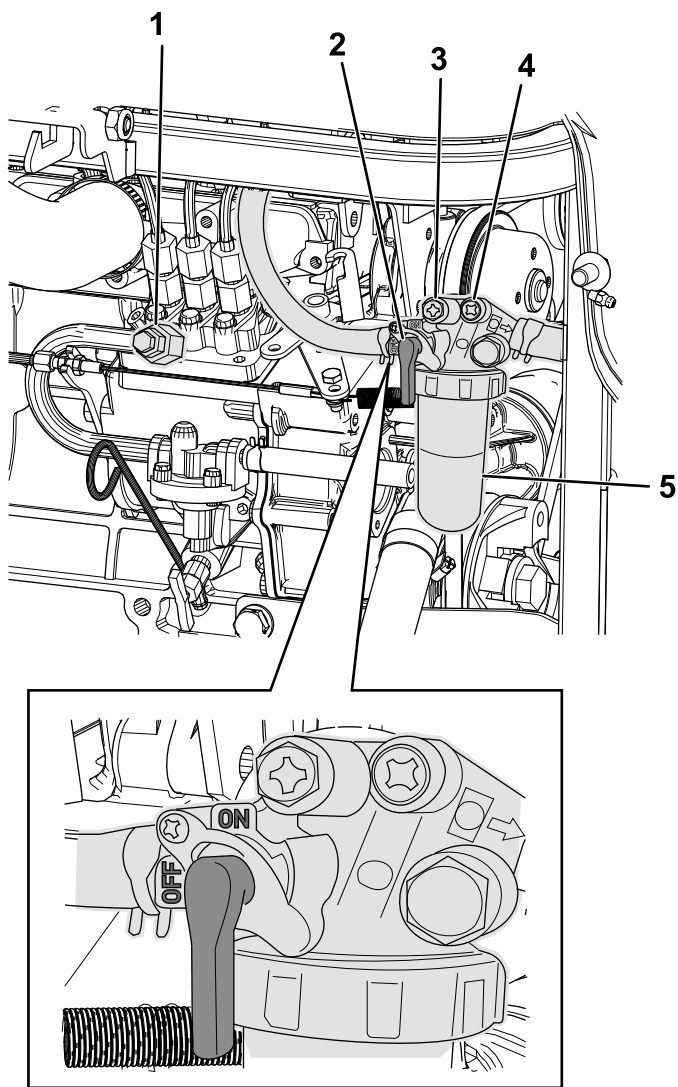

Figure 58
7. Confirm and ensure the fuel filter lever is in the ON position (Figure 58).
8. Open the first air-bleed screw on the fuel-injection pump (Figure 58).
10. After fuel starts to escape, tighten the first air-bleed screw (Figure 58).
11. Open the second air-bleed screw on the fuel-injection pump (Figure 58).
13. After fuel starts to escape, tighten the second air-bleed screw (Figure 58).
7. Rotate the fuel filter lever to the ON position (Figure 58).